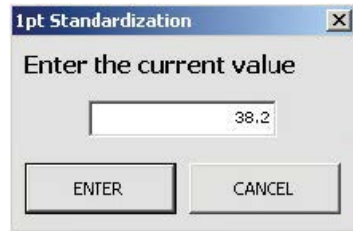

Figure 2.42. Vent heater 1 pt standardization.
3. If the single point calibration is used, allow the temperature to equilibrate, and read the value from the thermometer. Then type the value into the pop-up window (Figure 2.42) and click **Enter**.